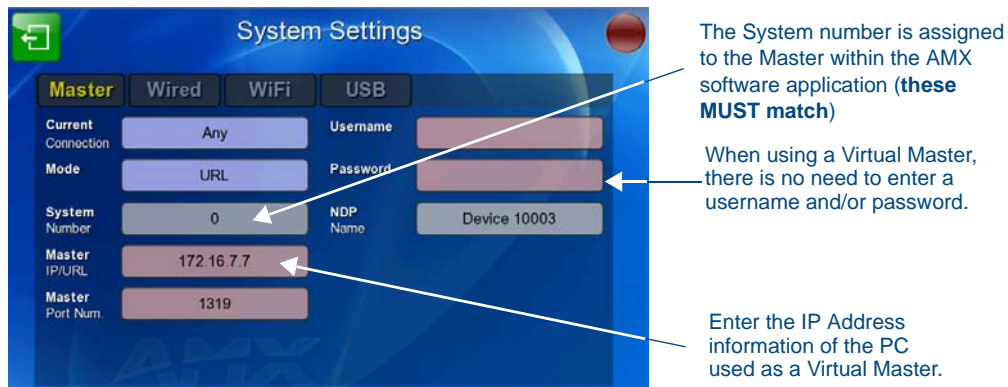

FIG. 41 Sample System Settings page (for Virtual Master communication)
- Select **Protected Setup > Network** to open the *System Settings* page and *Master* tab (FIG. 41).